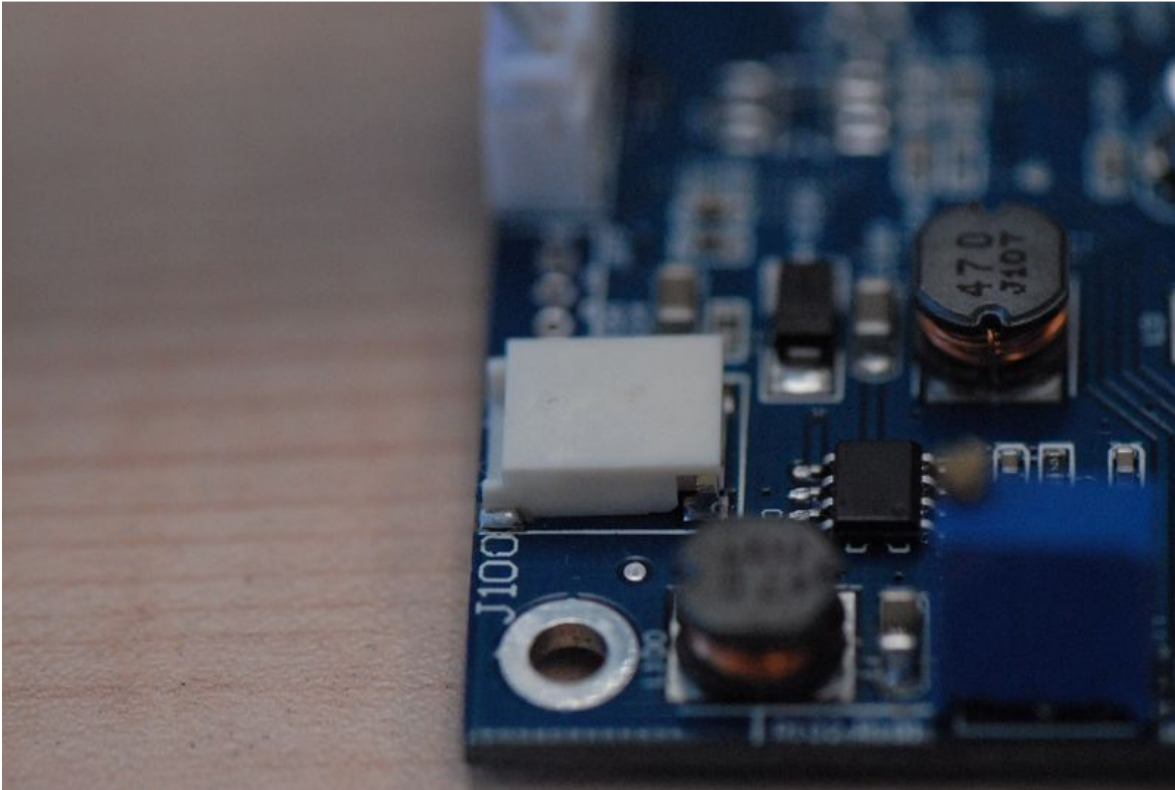

Fig. 7 LED backlight driver output connector.
- a. Some kits use an integrated LED driver on the signal converter board. Look for a connector shown in Fig 7. The two pin LED backlight cable should be inserted here.